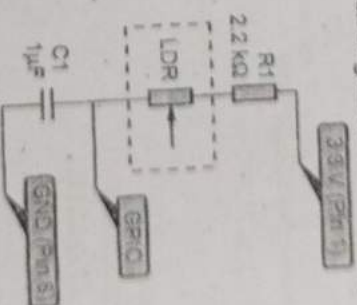

Fig. Q.19.2 : Circuit diagram for LDR
• Fig Q.19.2 shows circuit diagram for above configuration.